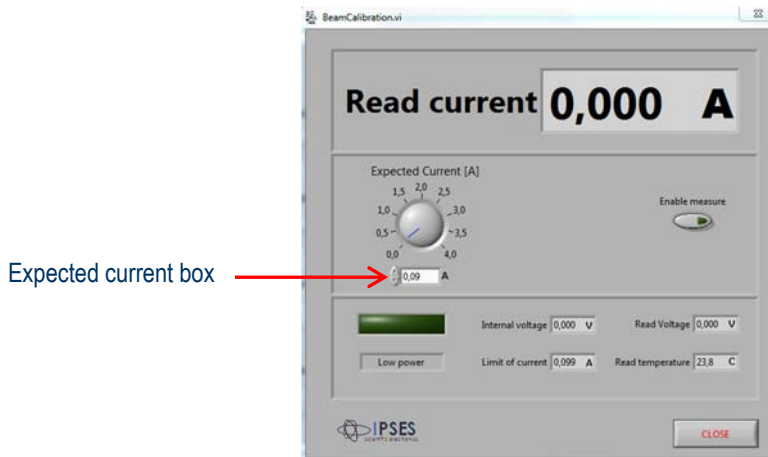

Figure 46 –Beam Calibration window
The Beam calibration button on the main panel allows you to access the window for reviewing the electrical values of the cell for the manual calibration of the solar simulator. In this mode SoCRATes keeps short-circuit the DUT and reads the current delivered by it. The operator must set the value of a typical short-circuit current of the solar cell ( $I_{sc}$ ) in the Expected Current (A) box (Figure 46).